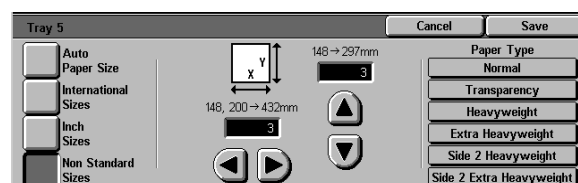

Figure 29: Tray 5 Non Standard Sizes
- Touch **Non Standard Sizes** and enter the X (width) and Y (length) dimensions by using the arrows, as shown in Figure 29.